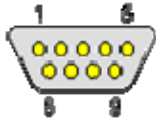

Figure 4-30: Serial Communications Connector Pinout Locations
- CN Pinouts: See **Figure 4-30** and **Table 4-29**